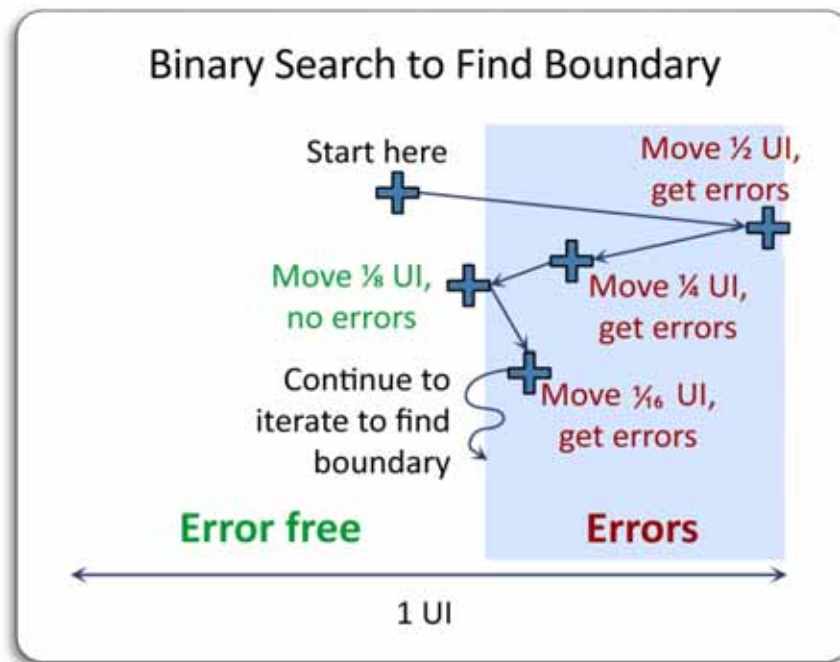

Figure 25: Find Optimum Delay
To correctly compensate for the delay in the Data Out vs. the Subrate Clock output from the BERTScope, the cable interconnecting the Subrate Out to the DPP125B should be approximately 1.6 meters (60 inches) longer than the cable connecting the BERTScope Data Out to the DPP125B Data In. With the additional cable length providing the rough delay match, use the calibration method described in Figure 25 to fine tune the delay match to ensure optimum DPP timing.
- c. Once error free operation is obtained, **find** the boundary between error free and errored operation by **decreasing** the Generator Delay and using a binary search method as shown in Figure 25 below. Record the Generator Delay.